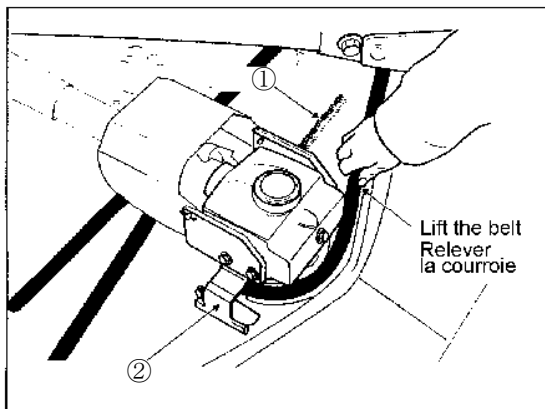

Figure 38
4. Remove the tension spring ①.
5. Remove the gearbox mounting bracket ②, shown in Figure 38.
6. Lift the used belt and turn the pulley slowly, Figure 38. Remove the used belt gradually from pulley.
4. Déposer le ressort de tension ①.
5. Déposer le support de montage de transmission ②, indiqué dans la Figure 38.
6. Relever la courroie usée et tourner lentement la poulie, Figure 38. Déposer graduellement la courroie usée de la poulie.
- Install the gearbox mounting bracket ②, and tighten the bolts, Figure 38.
- Install the tension spring ①.
- Reposer le support de montage de transmission ② et resserrer les boulons, Figure 38.
- Reposer le ressort de tension ①.